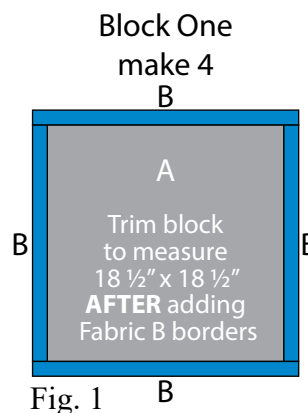

Fig. 1
- Sew (1) 2" x 16 1/2" Fabric B strip to each side of (1) 16 1/2" Fabric A square. Sew (1) 2" x 19 1/2" Fabric B strip to the top and to the bottom of the Fabric A square to make (1) Block One square (Fig. 1). **Trim the block to measure 18 1/2" x 18 1/2"**. Repeat to make (4) Block One squares total.